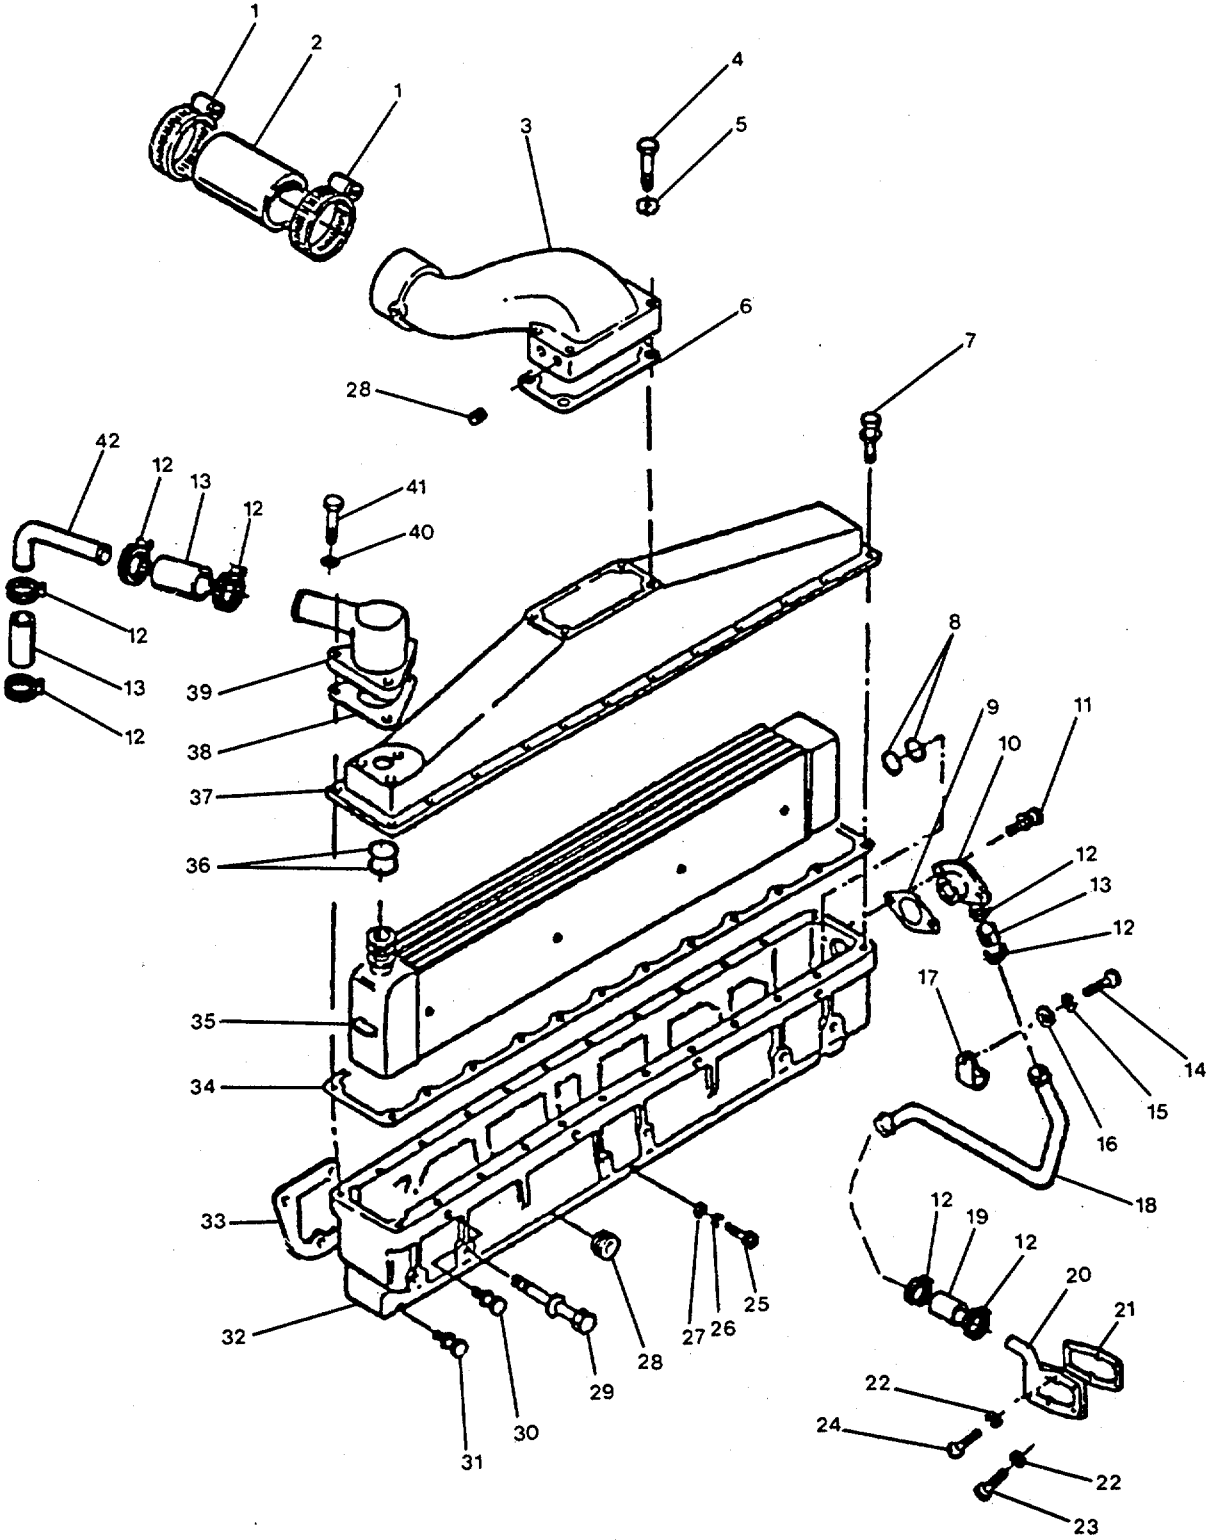
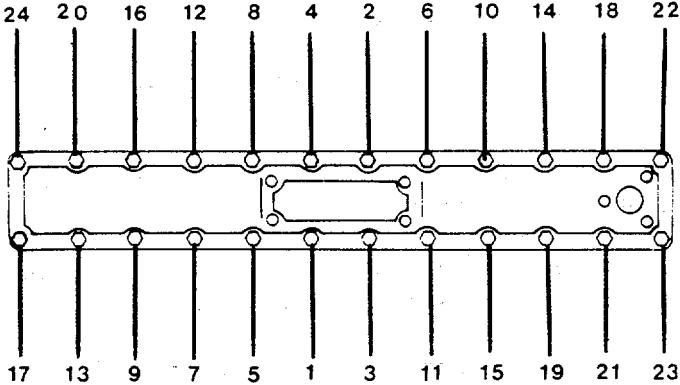
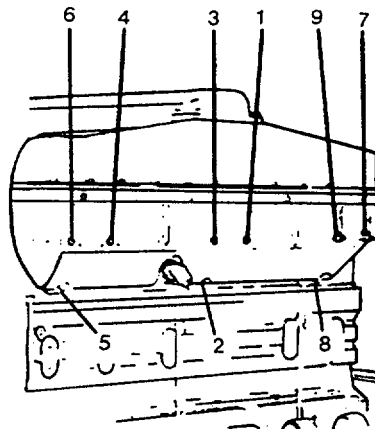

FIGURE 2-46. *Aftercooler Group.*
FIGURE 2-48. Cover Torque Sequence.
FIGURE 2-49. Aftercooler Mounting Torque Sequence.
- (1) Loosen hose clamps (1, Figure 2-46) and remove preformed hose (2) from air crossover connection (3).
- (2) Remove four capscrews (4) and four flat washers (5) and remove air crossover connection (3) and gasket (6) from the aftercooler. Discard the gasket.
- b. Loosen two hose clamps (12) on nonmetallic hose (19) and disconnect the bentmetallic tube (18) from the water inlet connection (10).
- c. Loosen two hose clamps (12) and disconnect nonmetallic hose (13) from the elbow to hose flanged water outlet connection (39).
- a. Remove the three gaskets (33). Discard gaskets.
- b. Remove two assembled washer screws (11, Figure 2-46) and remove the water inlet connection (10) and gasket (9). Discard the gasket.
- c. Remove three machine bolts (41) and gaskets (40) and remove the flanged elbow to hose outlet connection (39) and gasket (38). Discard gasket.
- d. Remove the 24 assembled capscrews and washers (7) which secure the aftercooler cover (37) to the air intake manifold housing (32).
- e. Remove eight assembled washer screws (30) which secure the housing (32) to the aftercooler core (35).
- f. Remove core (35) from the housing.
- g. Remove gasket (34) and preformed packings (8 and 36).
- (1) Tighten all screws to 15 ft-lb (20 N•m) torque.
- (2) Tighten all screws to 25 ft-lb (35 N•m) torque.
- f. Install a new gasket (34, Figure 2-46) and the waterinlet connection (10) on the housing (32). Use fingers to tighten the assembled washer screws (11).
- g. Install a new gasket (35) and the aftercooler cover (37) to the housing (32). Use fingers to tighten the capscrews (7).
- h. Install a new gasket (38) and the water outlet connection (39). Use fingers to tighten the machine bolts (41).
- i. Tighten the water inlet mounting capscrews (11) to 30 ft-lb (40 N•m) torque.
- j. Follow the sequence shown in Figure 2-48 and tighten the 24 capscrews (7), which fasten the cover (37, Figure 2-46) to the housing (32), to 25 ft-lb (35 N·m) torque.
- k. Tighten the water outlet bolts (41) to 20 ft-lb (30 N·m) torque.
- b. Install three new gaskets (33, Figure 2-46), and install the aftercooler assembly on the guide studs.
- c. Install six assembled washer screws (31).
- d. Remove the guide studs, and install two remaining assembled washer screws (31).
- e. Tighten the assembled washer screws (31) in the sequence shown in Figure 2-49 to 25 ft-lb (35 Nm) torque.
- f. Install the hoses (13, 14, Figure 2-46) on the coolant inlet and the outlet connections (10, 20) and replace hose clamps (12).
- h. Install new air crossover connection gasket (6), connection (3), hose (2), and clamps (1). Tighten the clamps to 70 in-lb (8 N•m) torque.
- i. Fill the cooling system (Table 2-1, item 24).